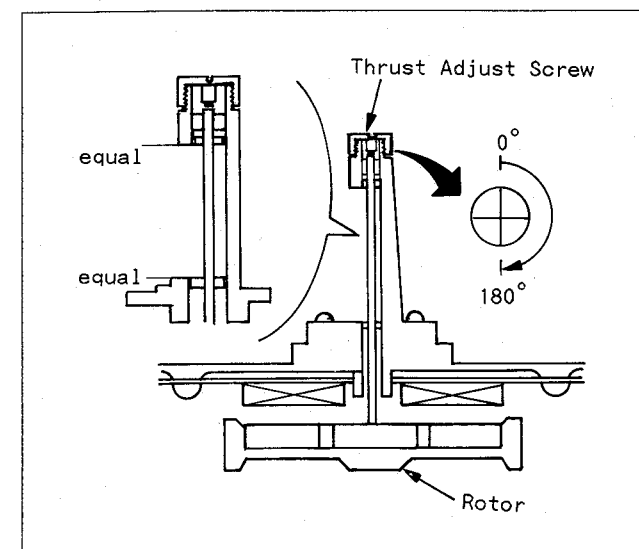

Fig. M16
11. Upon completion of above procedure, confirm that these 2 Dust Seals are positioned as shown in Fig. M16. And then, wipe off the Capstan Shaft to remove oil, grease and dust.